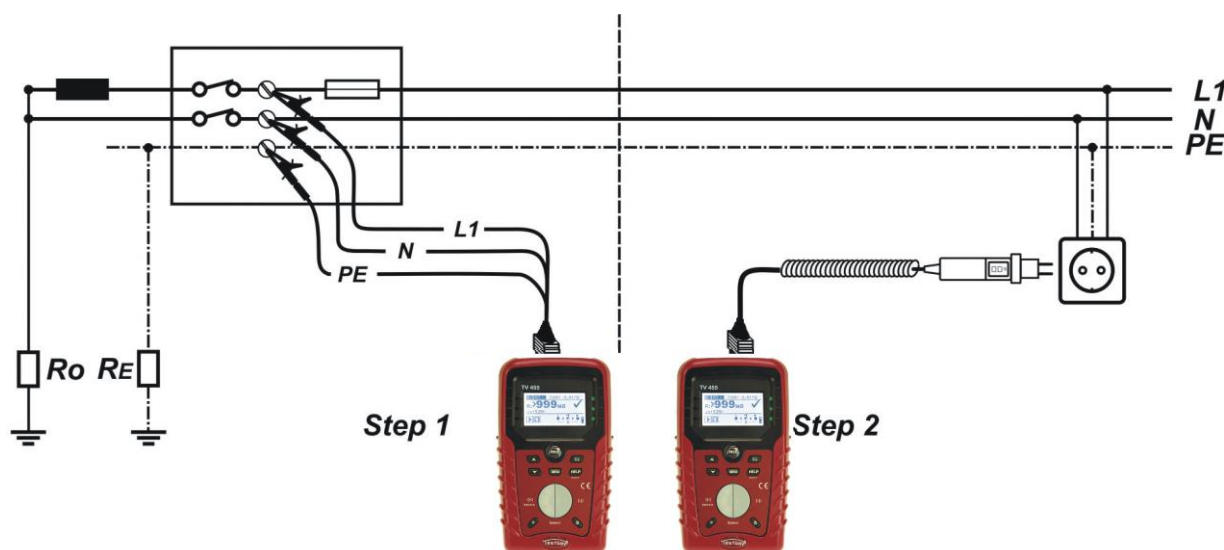

Figure 5.30: Phase-neutral or phase-phase voltage drop measurement – connection of plug commander and 3-wire test lead
- **Connect** the test leads to the origin of electrical installation (see figure 5.30).
- ❑ **Connect** the test leads to the tested points (see figure 5.30).